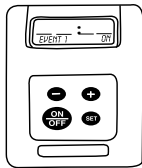

FIG. 3
- 1) After the time is set, press SET button once. The display will now show EVENT 1 ON mode. EVENT 1 ON will be flashing with a blank display. (See Fig. 3)